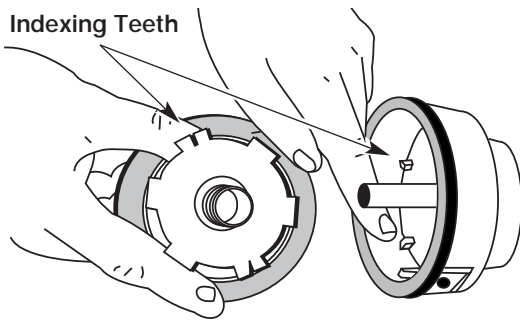

Figure 19
- Check the indexing teeth on the inner reel and outer spool for wear. If necessary, remove burrs or replace the reel and spool. See Figure 19.